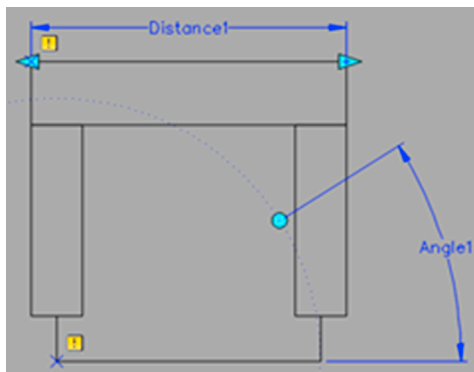

FIGURE 7.11 Dynamic Block, Step 2.
Step 2. While you are there, add a rotation by running through the required Base Point (lower left), Radius (any value), and Angle (30°) prompts. The result is shown in Fig. 7.11.